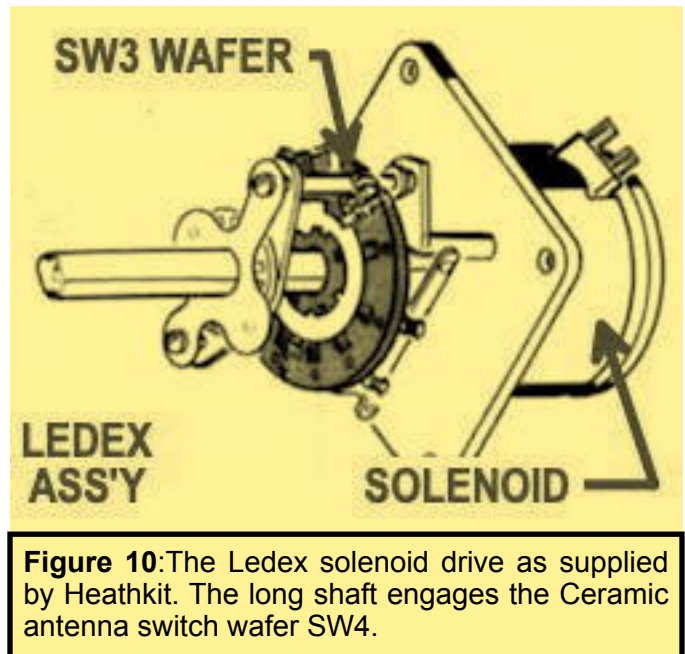

Figure 10: The Ledex solenoid drive as supplied by Heathkit. The long shaft engages the Ceramic antenna switch wafer SW4.
FIGURE 10: This partial photo is from the Fall 1984 Heathkit Catalog. It shows the control box for the new HD-1481 antenna switch (4), the soon to be discontinued SA-1480 control box with remote antenna switch (10) and the HD-1234 manual antenna switch (14). All three products were sold simultaneously for a few months in late 1984.
the HD-1234 was selling for \$19.95, the SA-1480 was selling for \$99.95 (The IDA-1290-1, -2, -3 cables were selling for \$9.95, \$16.95 and \$23.95 respectively) and the just introduced HD-1481 Remote Antenna Switch was introduced at \$89.95. (See **Figure 10**). By the time the Christmas 1984 catalog came out the same two pages had an almost identical layout as the previous catalog. However the SA-1480 was no longer listed. Added to the listing Heathkit introduced a new GRA-72 Long-wire SWL antenna for \$9.95. The HD-1234 and HD-1481 were still shown, and the HD-1481 was still marked as “new”. These two antenna switches lasted almost to when Heath closed its doors.